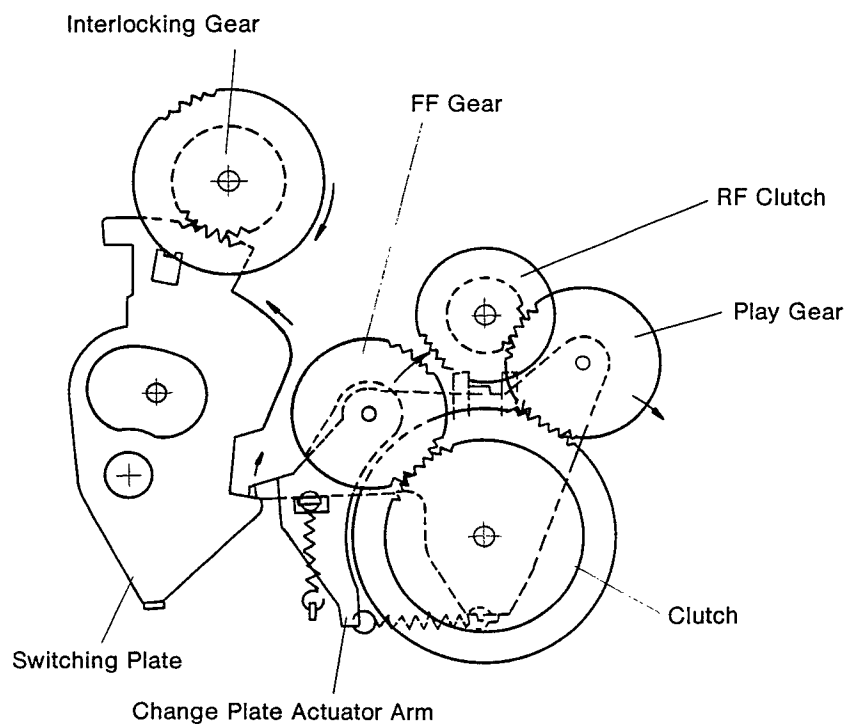

Fig. 6 Reel Revolution Switching Mechanism
4. Selects the rotational frequency of the reel (Fig. 6)